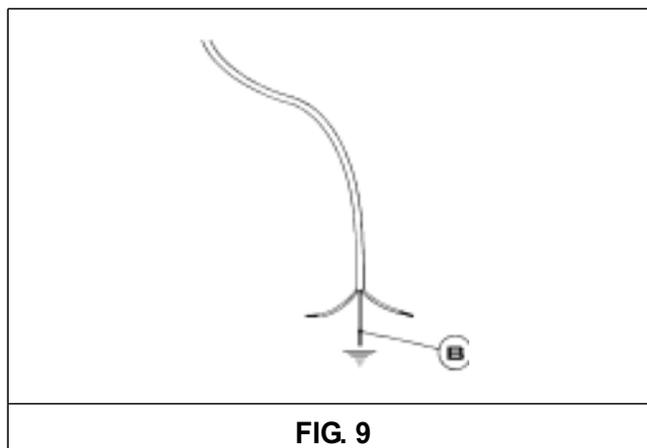

FIG. 9
**Note: in the event the power cord is replaced, the ground wire must be left longer than the lead wires (B) (fig. 9) and the instructions in the paragraph "ELECTRICAL CONNECTIONS" must be observed.**